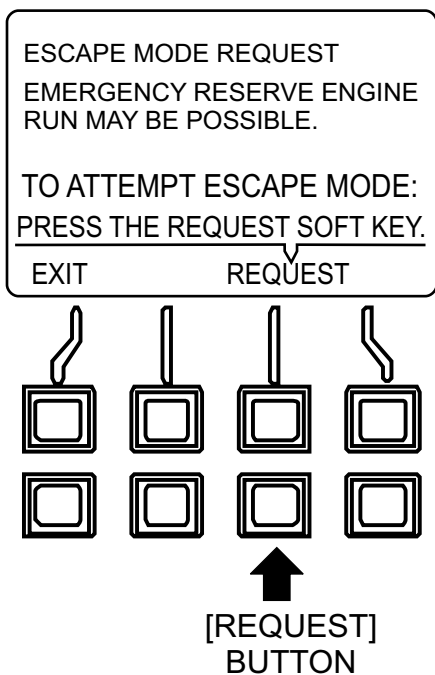

Figure 74. Escape Mode Menu Screen
- Press the **[REQUEST]** button (Figure 74) to send "Escape Mode Request" signal to ECM.